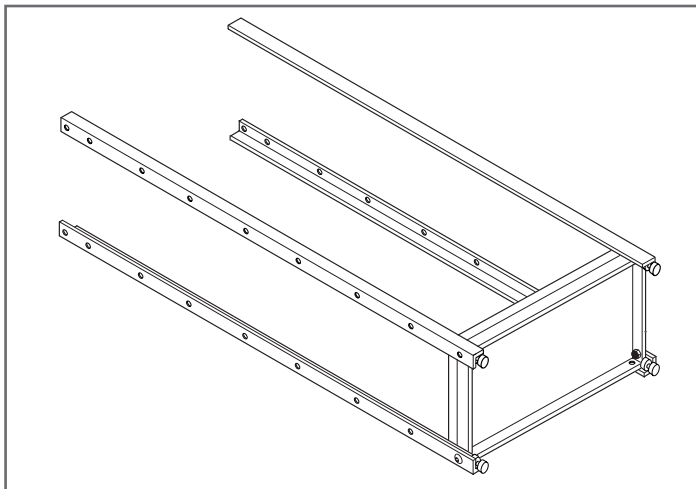

Figure 4
7. Place the remaining two legs (E) on the front of the shelf ensuring the holes in both shelf and legs are aligned. Install screws and nuts on the remaining two legs. Do not tighten (Figure 4).